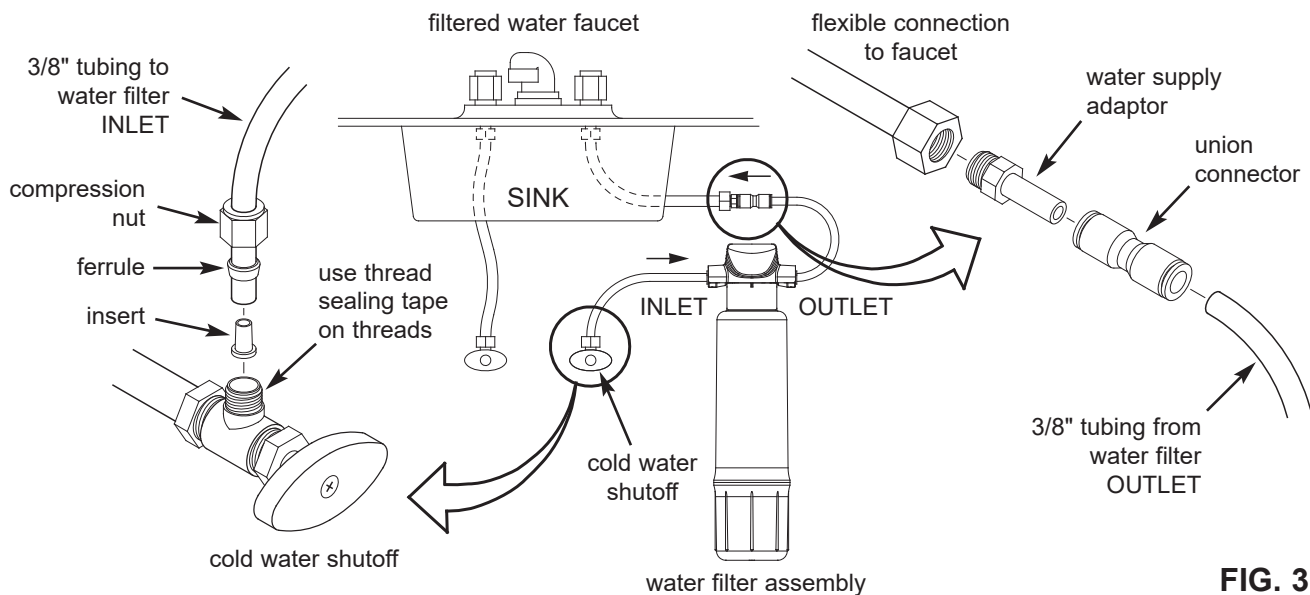

FIG. 3
Check and **comply with local plumbing codes** as you plan, then install the fittings to connect the Single Stage Drinking Water Filtration System into the sink's cold water supply line. Fittings (9/16-24 thread) and 3/8" O.D. tubing are included to provide connections to and from the water filter's inlet and outlet. A typical connection using the included water supply fittings is shown in Figure 3.
3. Locate one piece of the supplied 3/8" tubing, plus the supplied compression nut, ferrule and tubing insert (See Fig. 3). Assemble the parts onto the tube, as shown in Figure 3, and thread the compression nut onto the cold water shutoff. Tighten to provide a leak-tight connection.
4. Locate the water supply adaptor (supplied) and install it into the nut on the supply line which you disconnected in Step 2. Refer to Figure 3.
5. Press the stem of the water supply adaptor into one end of the supplied union connector (See Figure 3). Be sure to push the stem all the way in.